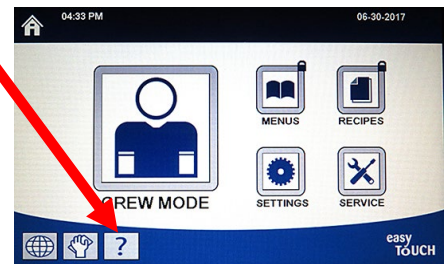

Figure 29
3. Press the ? button (see Figure 29).